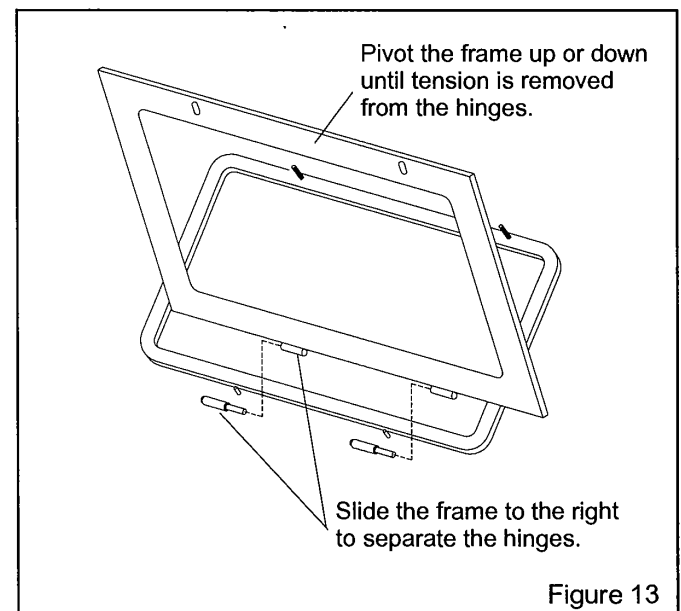

Figure 13
7.5 Window Frame Removal, Figure 13
7.5.4 Slide the frame to the right, to remove. The hinges separate as shown in Figure 13.